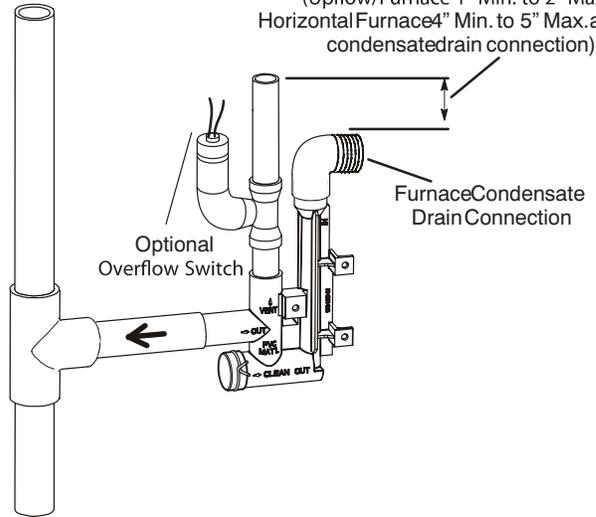
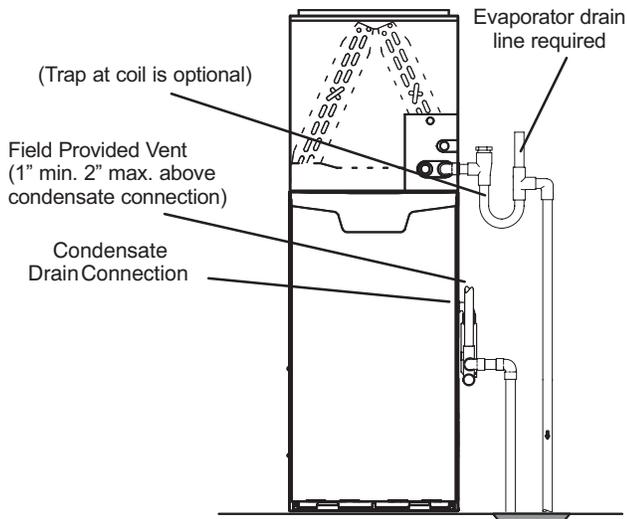
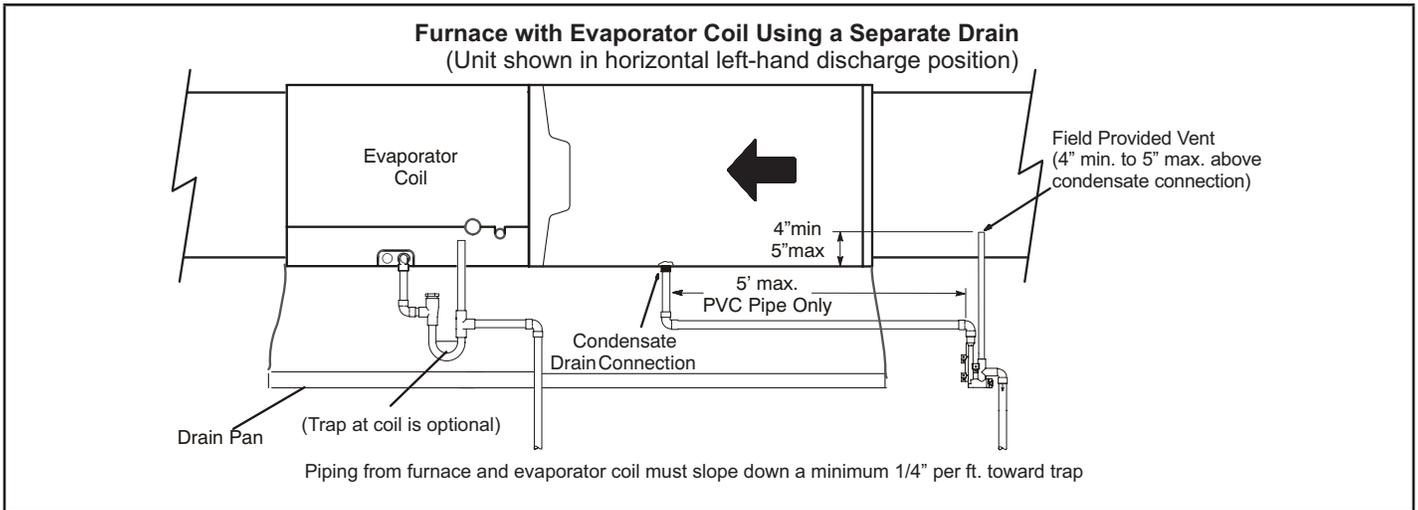
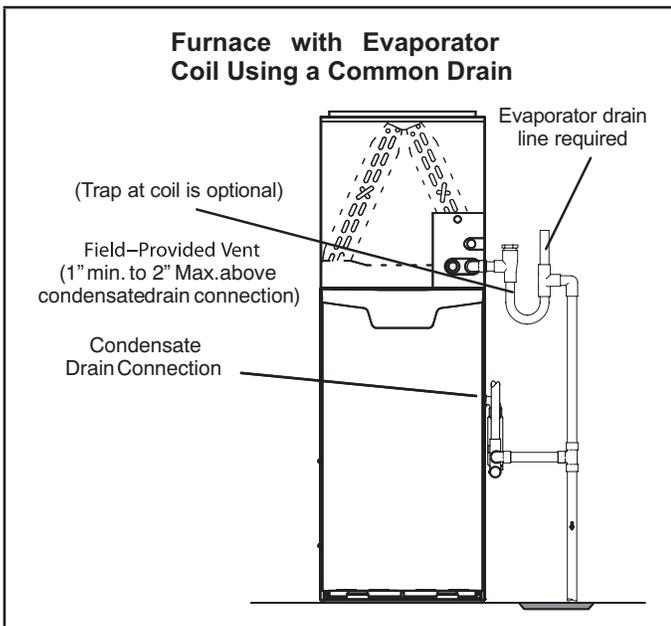

Figure 50
Figure 49
Figure 51
Figure 52
- 5 - "Figure 49" and "Figure 51" shows the furnace and evaporator coil using a separate drain. If necessary the condensate line from the furnace and evaporator coil can drain together. See "Figure 50", "Figure 52" and "Figure 53". Upflow furnace ("Figure 52") - In upflow furnace applications the field provided vent must be a minimum 1" to a maximum 2" length above the condensate drain outlet connection. Any length above 2" may result in a flooded heat exchanger if the combined primary drain line were to become restricted. Horizontal furnace ("Figure 53") - In horizontal furnace applications the field provided vent must be a minimum 4" to a maximum 5" length above the condensate drain outlet connection. Any length above 5" may result in a flooded heat exchanger if the combined primary drain line were to become restricted.